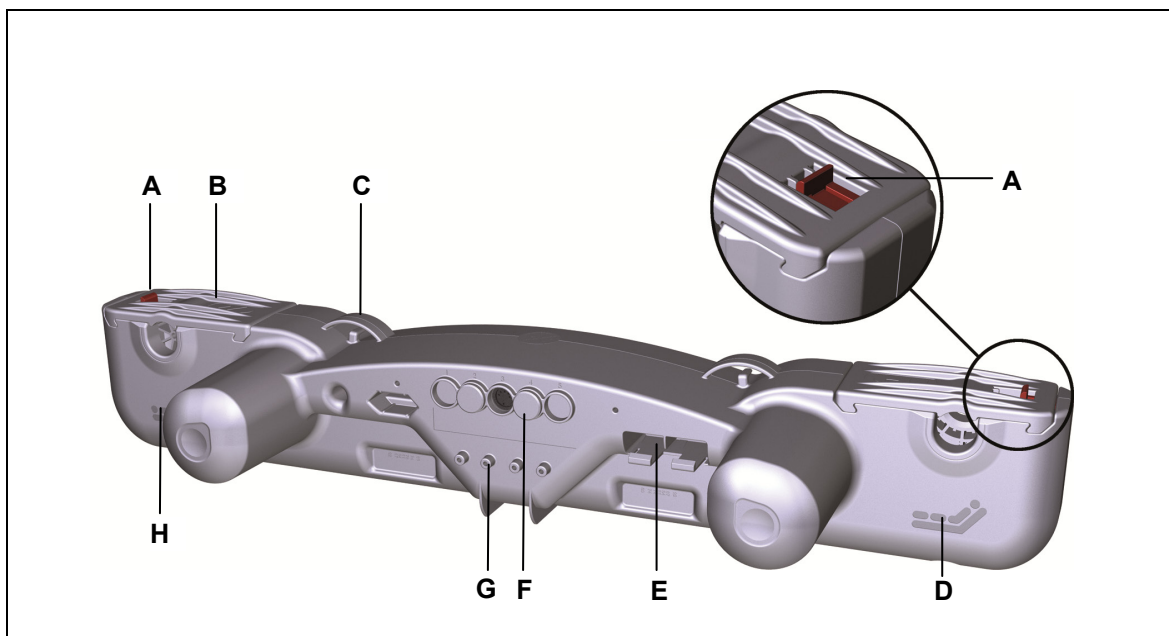

Figure 3 Main components of the DUOMAT 8 double drive
- 2 Pull the optional snap-in locking mechanism towards the centre until it snaps in (refer to Figure 3).
- 3 Pull the shutters firmly to the side (A). The slots (B) for the brackets (D) are uncovered.
- 4 Align the DUOMAT 8 next to your product. The slots for the head and foot sides must be properly aligned with the correct brackets on your product (refer to the symbols on the DUOMAT 8 as described in Figure 3).
- 5 Push the drive in so that the brackets (D) fit into the slots (B).
- 6 Push the shutters (A) back on the drive. The DUOMAT 8 is now securely attached to the end product.
- 7 Pull the optional snap-in locking mechanism towards the outside until it snaps in (refer to Figure 3).